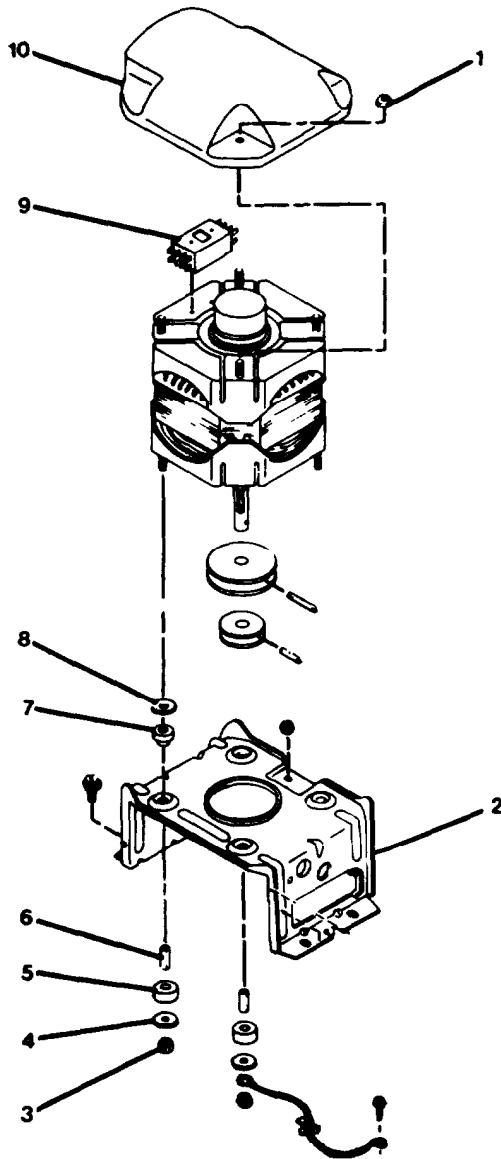

FIGURE 2-74. Washer Motor and Idler.
- w. Install spring (27, FIGURE 2-74) in idle lever (9).
2-88. Replace Washer Machine Rotor and Idler. (FIGURE 2-74)